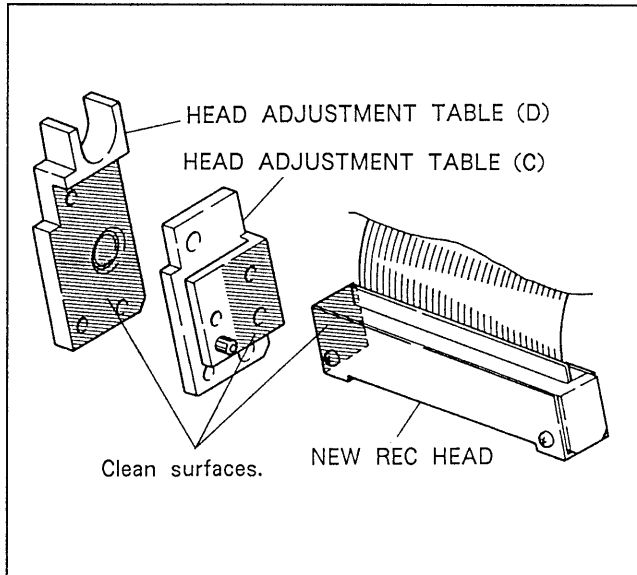

Fig. 6-16-3. Cleaning the Mounting Surface
- Clean the shaded area of each mounting surface shown in Fig. 6-16-3 by the cleaning cloth (or gauze) soaked with alcohol.